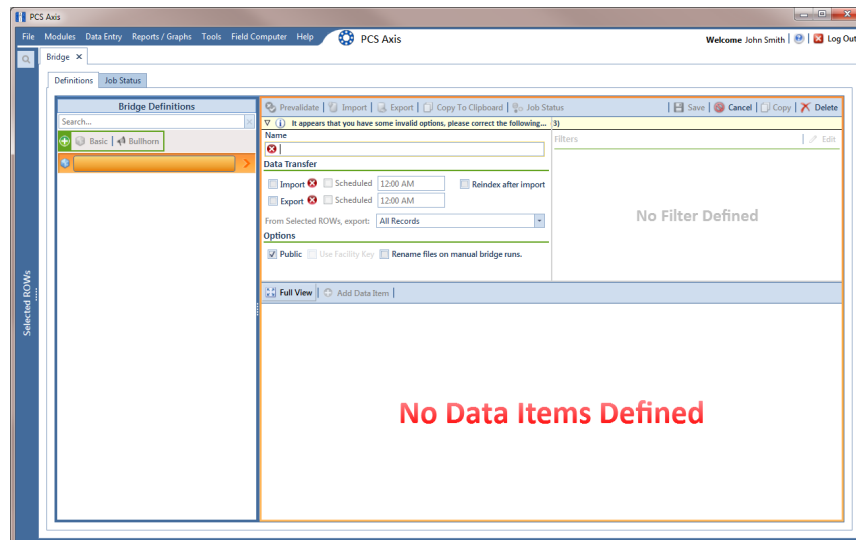

Figure 10-42. Basic Bridge Definition
- 3 Click  **Basic** to open the definition panel (Figure 10-42).